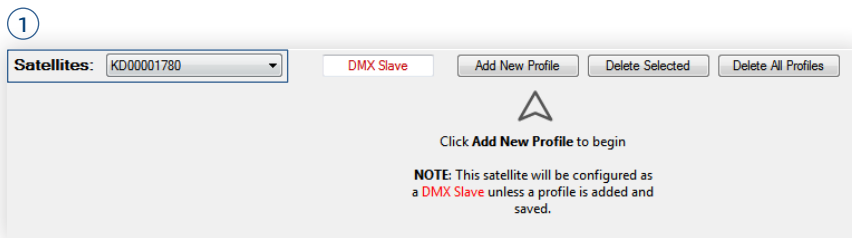

fig. 141
- 1 **Choose an N3 Satellite to configure.** To do this, use the dropdown after Satellites:, as in fig. 141.